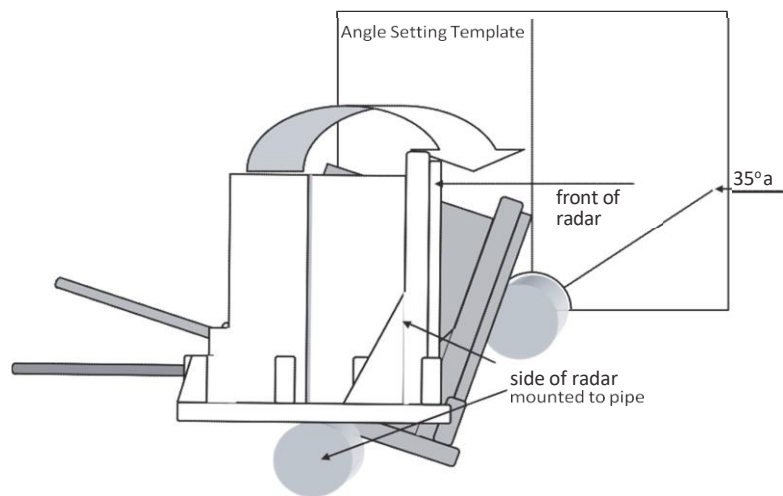

Figure 5: Mounting Angle
8. Refer to Figure 5 and hold the mounting bracket template for pipe installation behind the radar sensor over the pipe as shown.